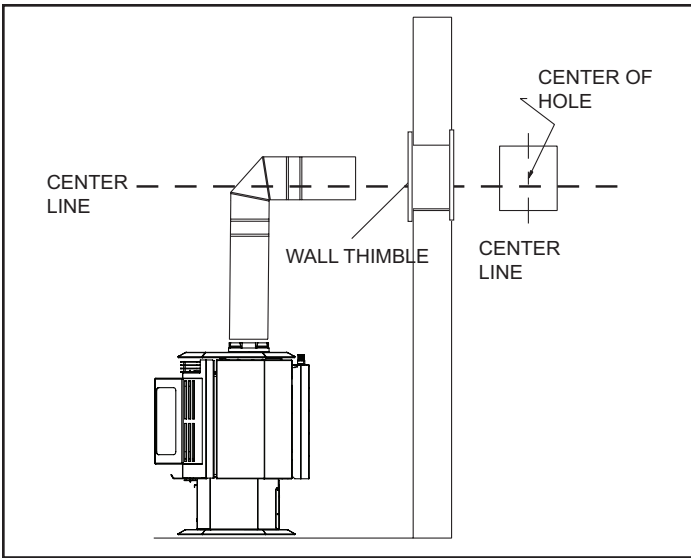

Figure 5.5
Step 3 - For installations using a support box/wall thimble (check pipe manufacturer's instructions), mark the wall for a 10 in. x 10 in. (254mm x 254mm) square hole. The center of the square hole should line up with the center line of the horizontal pipe, as shown in **Figure 5.5**. Cut and frame the hole in the exterior wall where the vent will be terminated. If the wall being penetrated is constructed of noncombustible material, i.e. masonry block or concrete, a 7 in. (178mm) diameter hole is acceptable.